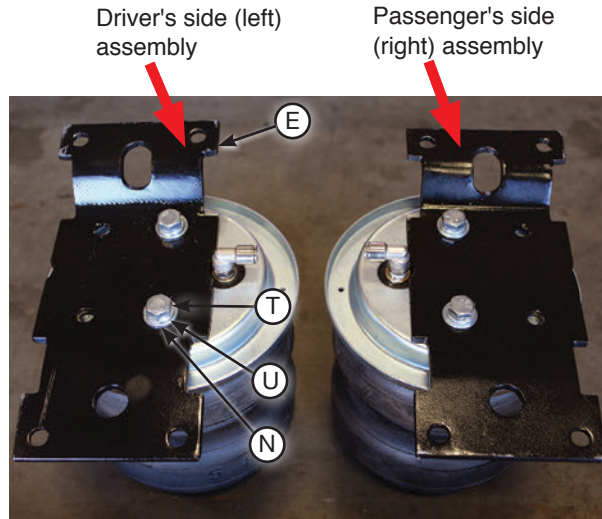

fig. D.8
- Set the upper air spring bracket (E) onto the top of the air spring using one set of holes with the 3/8"-24 x 7/8" hex cap screw (T), 3/8" lock washer (U) and 3/8" flat washer (N) (Fig D.8). Install the remaining air spring bracket onto the remaining air spring, using the opposite holes from those that were previously used. This makes the air spring assemblies into left- and right-hand units. Torque the hardware to no more than 20 lb.-ft. (27Nm).